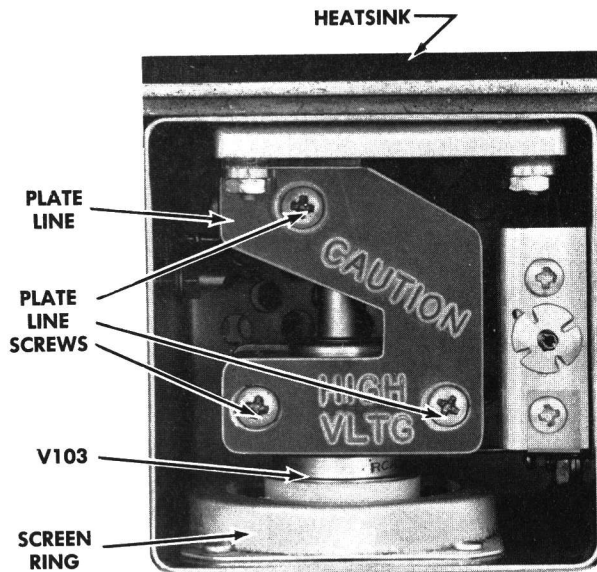

Figure 4 - PA Plate Box With Cover Removed
2. Remove the top cover on the AMPL PLATE box (Fig. 4). Allow the transmitter to cool if necessary.